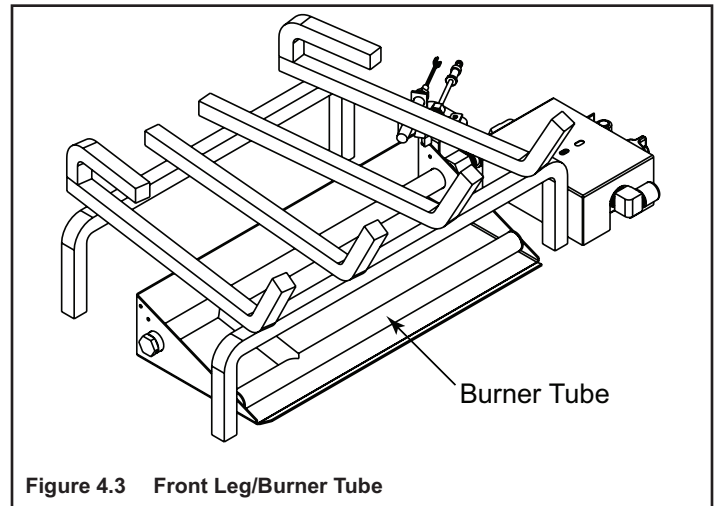

Figure 4.3 Front Leg/Burner Tube
- Burner pan should be centered between front legs of grate. The front leg of the grate should be approximately even with the front burner tube. Refer to Figure 4.3.